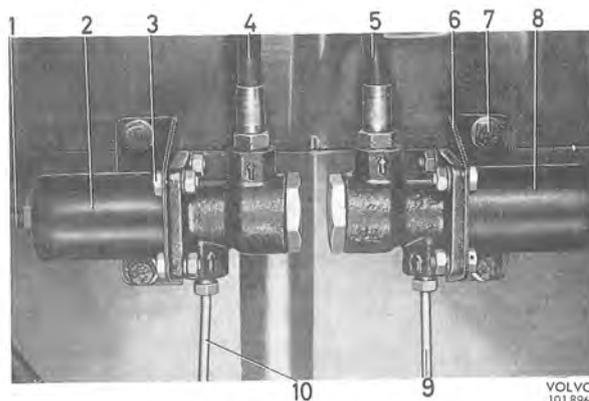
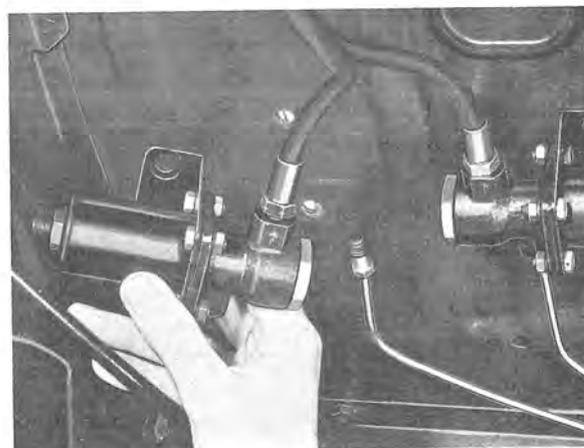

Fig. 5-57. Brake valves fitted
Fig. 5-58. Removing the brake valve
Unscrew and plug the brake pipe connection (10, Fig. 5-57). Slacken the brake hose (4) a max. 1/4 turn at the valve. Remove the attaching screw and unscrew the valve from the brake hose, see Fig. 5-58.
Screw the brake valve on to the brake hose, see Fig. 5-58. Place the valve in position and check that there is no tension in the hose. Fit the attaching screws and connect up the brake pipe. Tighten the connections. Bleed the brake system.